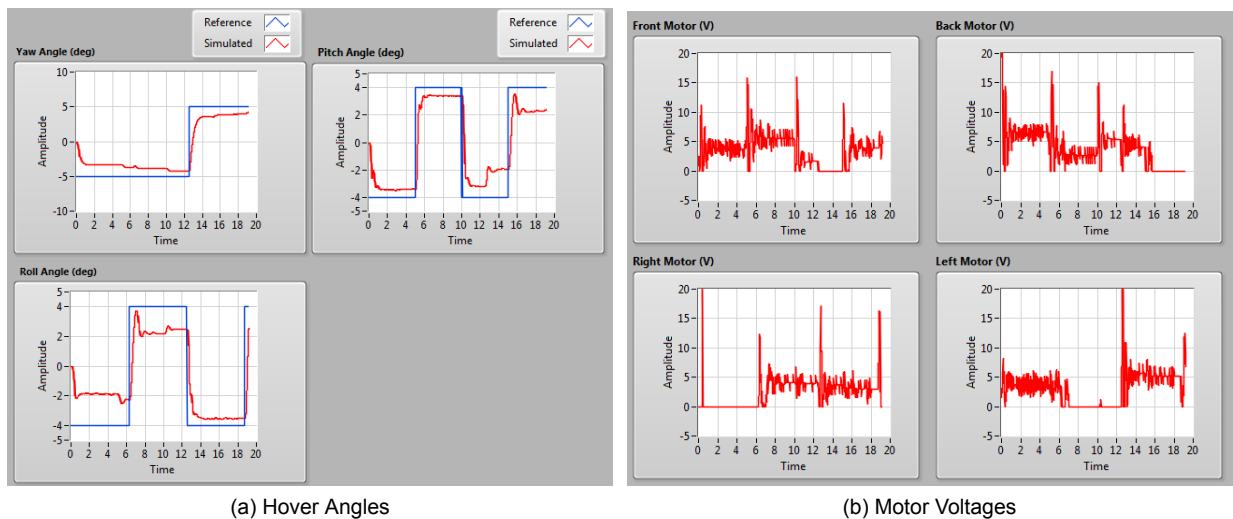

Figure 3.6: Sample closed-loop response of 3 DOF Hover
3. Run the VI. See the sample response shown in Figure 3.6 using a yaw step of ± 5 degrees at 0.04 Hz, a pitch of ± 4 degrees at 0.1 Hz, and a roll of ± 4 degrees at 0.08 Hz.
An example of the closed-loop balance response is shown in Figure 3.6.